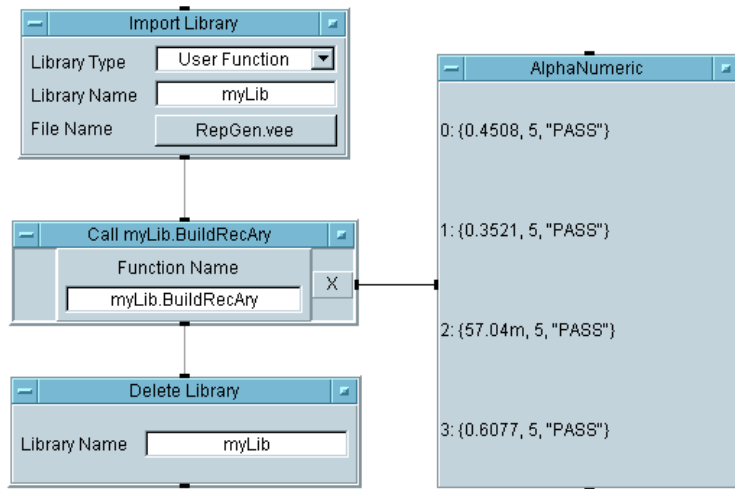

Figure 199 Calling a Function from a Library
- 8 Run the program. It should look like Figure 199. Save the program as **libraries.vee**.
- If an imported function has the same name as a local function, it is allowed, but the local functions are called if only the function name is used. You can explicitly call the imported function with the MyLib_func() syntax as in the Call object in Figure 199.